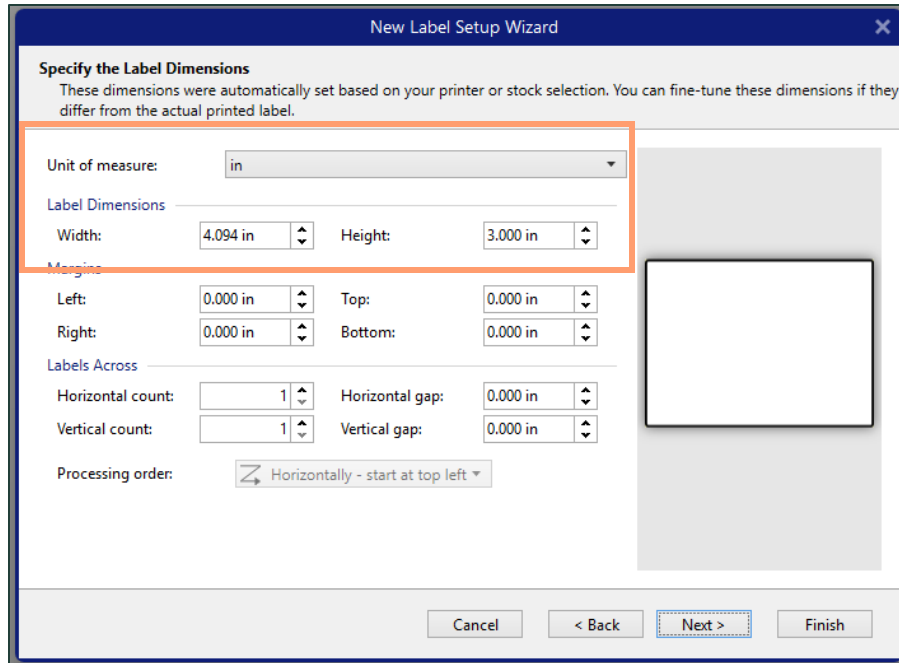

Figure 12: New Label Set Up Wizard with unit of measure set to inches and Label Dimensions and Width defined.
- Click Next. Now, specify the Label Dimensions – see figure 12.